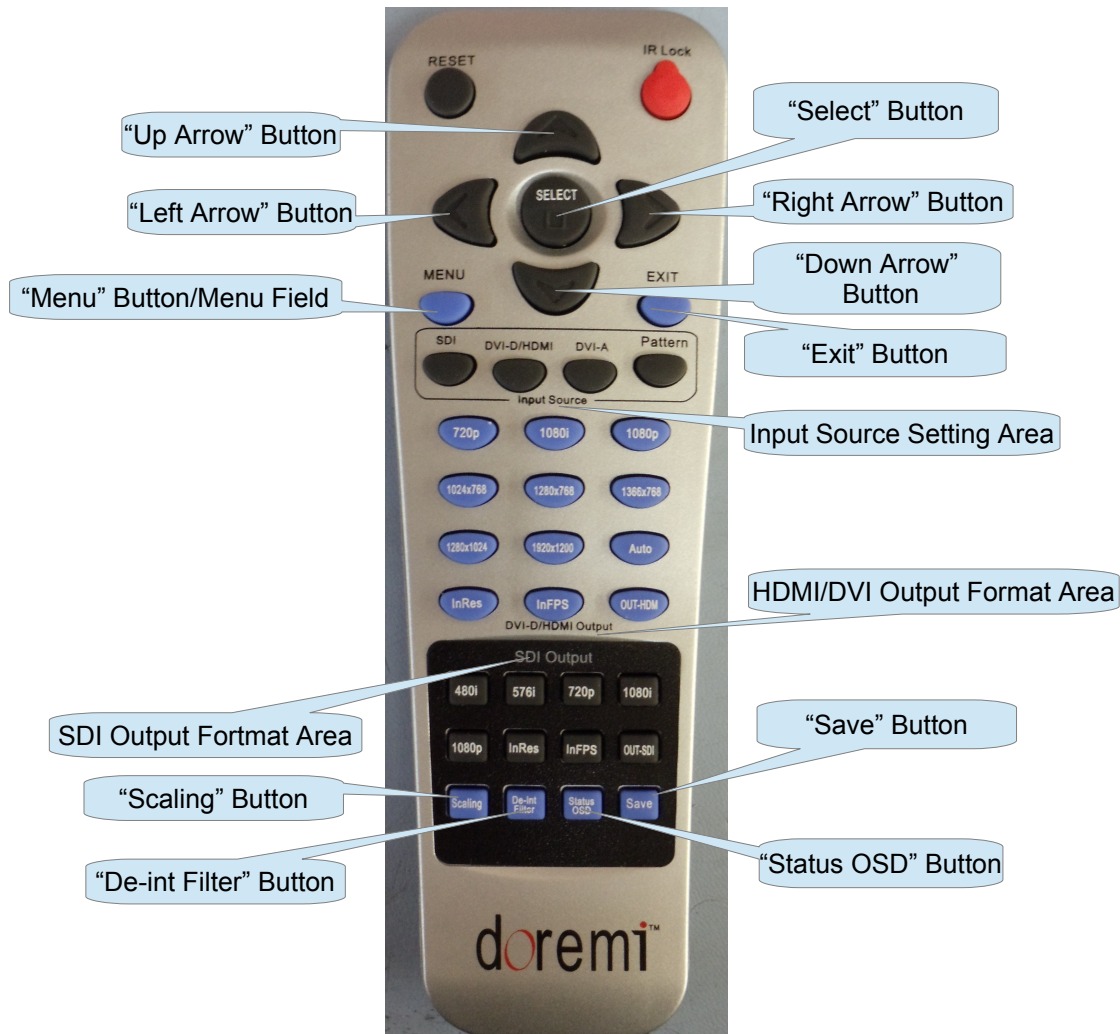

Figure 4: Infrared Remote Controller
- To set the Output Format to a specific HDMI/DVI format, press “OUT-HDM” on the IR controller (see Figure 4).